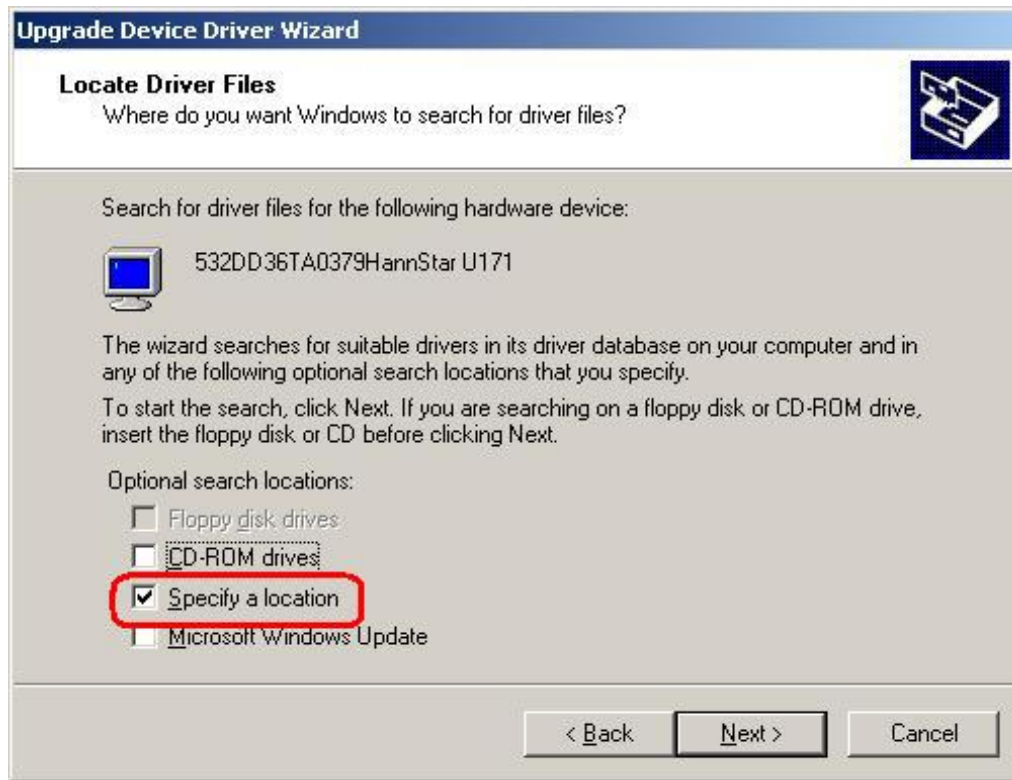

Figure 7-23: Locate Driver Files
- Step 7:** Select “Specify a Location” in the **Locate Driver Files** window (Figure 7-23).